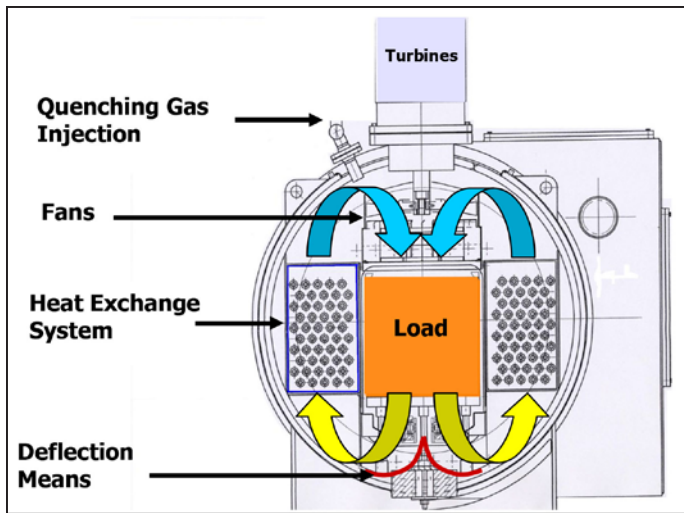

Figure 4 Principle of gas quench chamber.
**Quenching.** The high-pressure gas quench allows a range of appropriate cooling speeds (from 1 to 10°C/sec) to be reached; Figure 4 shows the principle of the gas quench chamber. Cold nitrogen gas is pushed down through the load, cooling it, and transfers the heat to the water when passing the heat exchanger. Gas quenching permits high flexibility and more repeatable results than oil quenching, because there is no boiling or